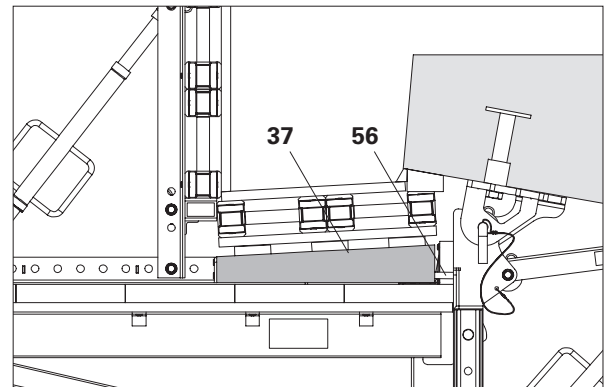

Fig. A4.01a
- Adapt Tie Rod DW 15 (**56**) with squared timbers (**37**). (Fig. A4.01a)